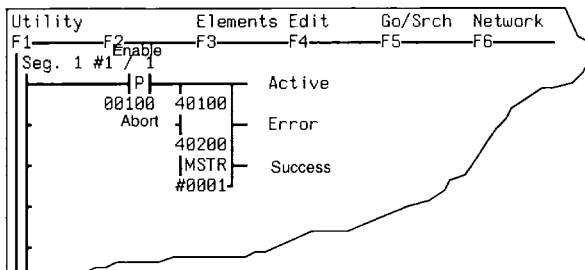

Figure 14 MSTR Block on Modsoft screen With Input/Output Labels
You can issue the “Change Address Command” using the ladder logic MSTR DX block. Figure 14 is an example of a Modsoft screen with MSTR block.
- The middle node (40200 in the example Figure 14) contains the new address. The new address can be a value between 1 and 64.